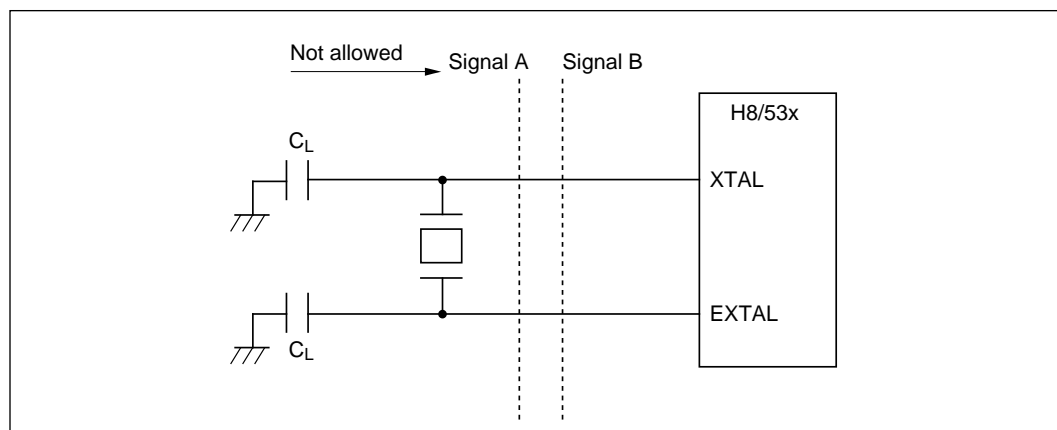

Figure 9-5 Example of Incorrect Board Design
(3) Notes on Board Design: When a crystal resonator is connected, the following points should be noted:
- Other signal lines should be routed away from the oscillator circuit to prevent induction from interfering with correct oscillation. See figure 9-5.